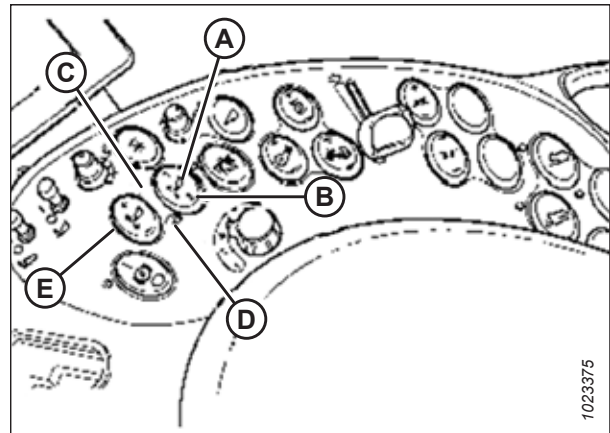

Figure 4.66: Case Combine Controls
You can adjust these set points by using FINE ADJUST switch (E) in Figure 4.66, page 154.